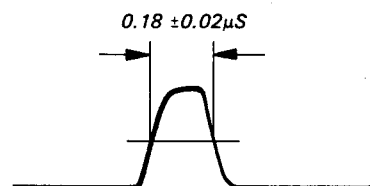

Fig. 5-148.
5. Adjust RV 2 for a pulse width of $0.18 \mu s$. (See Fig. 5-148.)